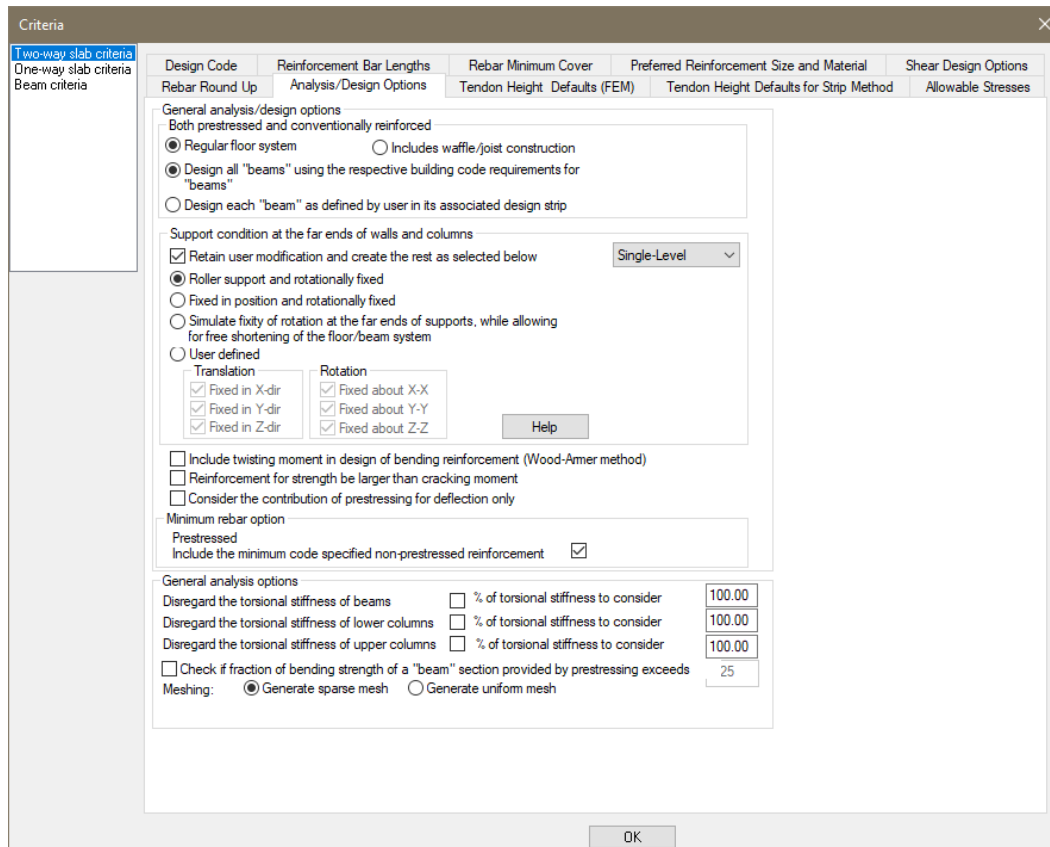

Figure 2-18
- Click on the *Analysis/Design Options* tab. This will open the window from **FIGURE 2-18**.